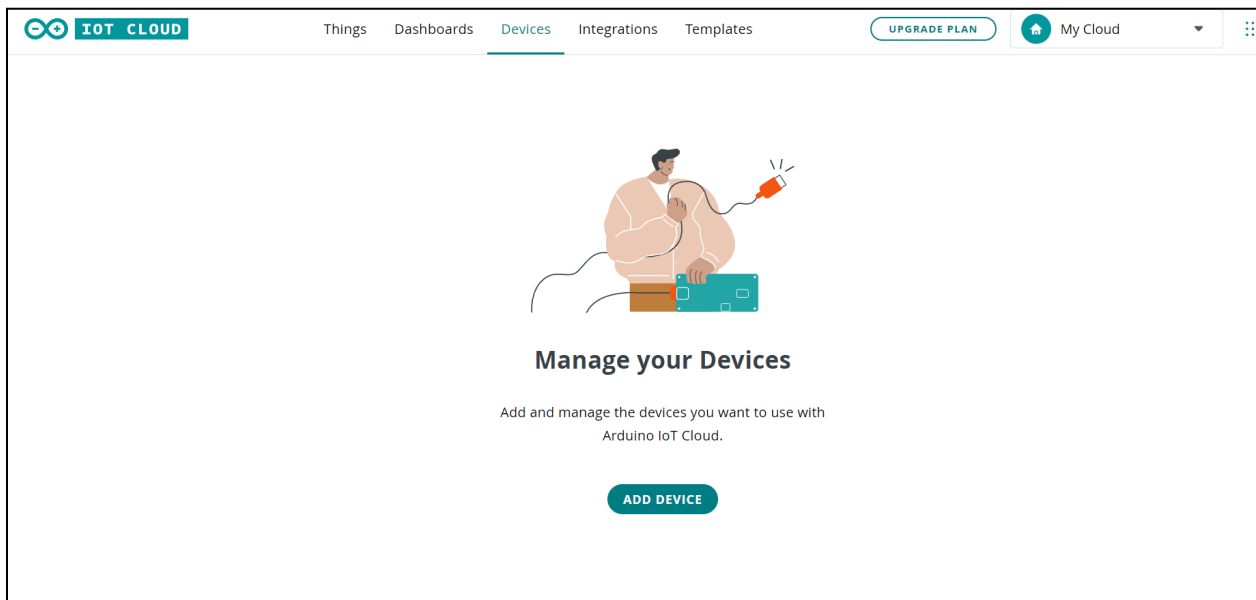

Fig. 6: Device Tab in the arduino cloud website
1. In the Arduino Cloud IoT interface, click on the "Devices" tab as shown in Fig. 6.
2. Click the "Add device" button in this "device tab" as shown in Fig. 6.